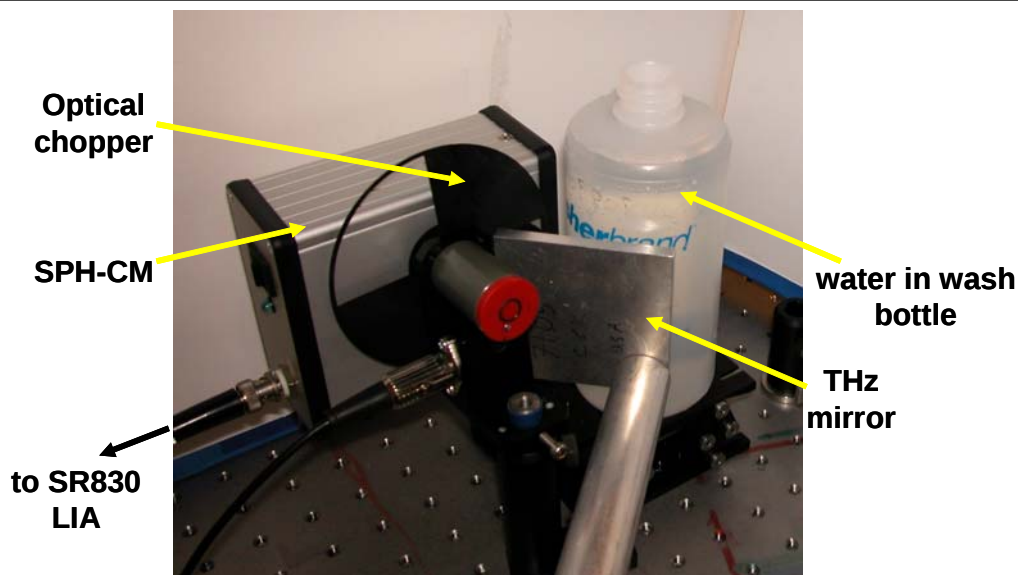

Fig. 2.
The first step in the NEAT experiment is to insert your pyroelectric detector into the SPH-CM bias box in the laboratory set-up. Again, practice precaution by wearing a wrist-strap during the installation, and make sure to carefully align the pins on the TO-5 header with the socket receptacles in the bias box before pushing the TO-5 can into place. Once the installation is done, re-assemble the SPH-CM bias box, making sure the two pieces of black polyethylene are placed in the optical window to block background IR radiation from striking the pyroelectric detector. Then re-mount on the optical bench top as shown in Fig. 2.
Start by turning on the bias to the SPH-CM and the controller for the optical chopper to 10 Hz. Make sure the chopper blade is as close as possible to the SPH-CM but doesn't touch it. Re-locate the THz turning mirror at approximately 45 degrees with respect to the chopper blade, and locate the hot water bottle as shown in Fig. 2. Put the thermocouple midway into the hot water bottle but not too close to the heating resistors. Record the temperature in your notebook. Take the reading from the SR-830 LIA with the Channel 1 display set to magnitude (R). Adjust the position of the turning mirror manually to maximize the reading. Record this in your notebook as V_H .